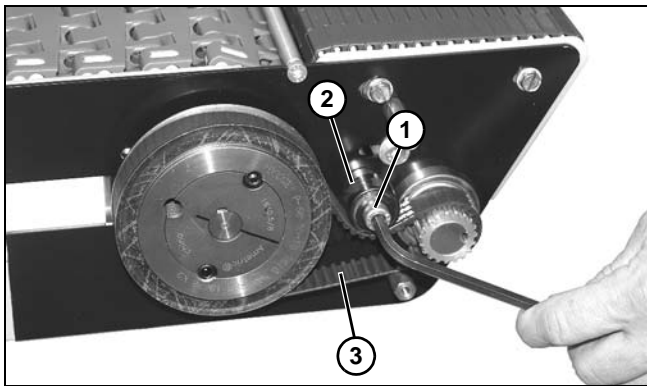

Figure 111
2. Loosen socket head screw (**Figure 111, item 1**) holding tensioning pulley (**Figure 111, item 2**) onto timing belt (**Figure 111, item 3**).